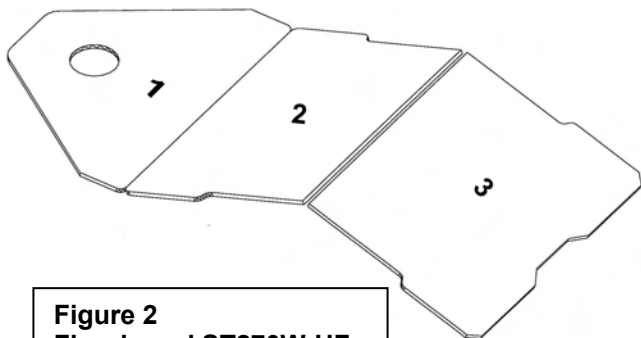

Figure 2
- 1 – Position the bottom in the order shown in figure 2 or 3 according to the model: